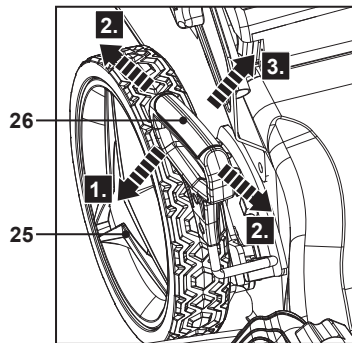

Fig. 23
1. Pull the lever for cutting height adjustment (26) towards the rear wheel (25) (Fig. 23, step 1), then move it forward or backward to the desired cutting height (Fig. 23, step 2).
2. Release the lever (26) and ensure it engages into place properly (Fig. 23, step 3).